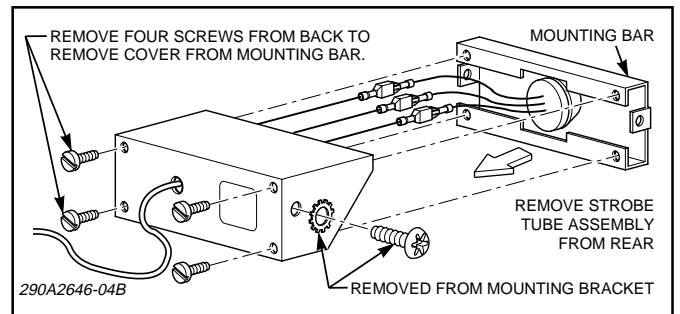

Figure 7.
3. See figure 7. Remove and retain the screws which secure the back cover to the mounting bar.